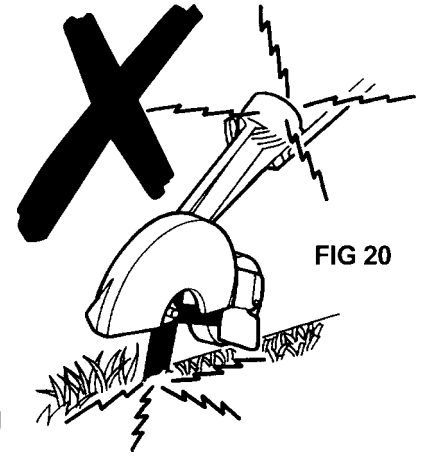

FIG 20
9. If blade jams or stops in the ground (Fig. 20), lower handles or release trigger and recommence. Engine speed should be full throttle under load with blade rotating at high speed.